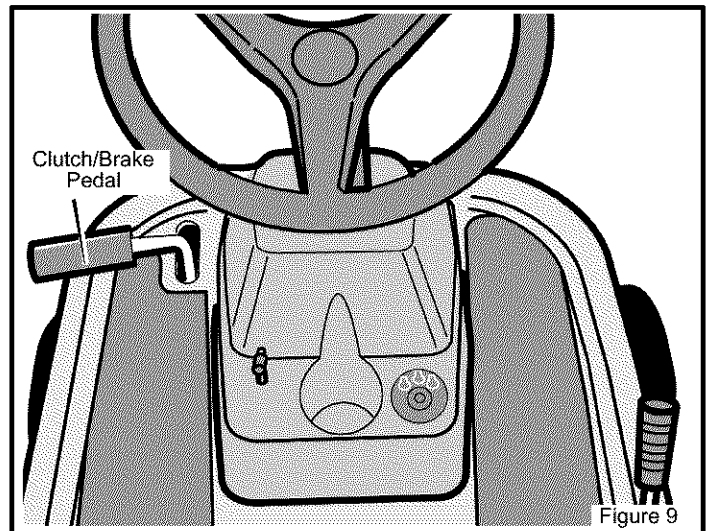
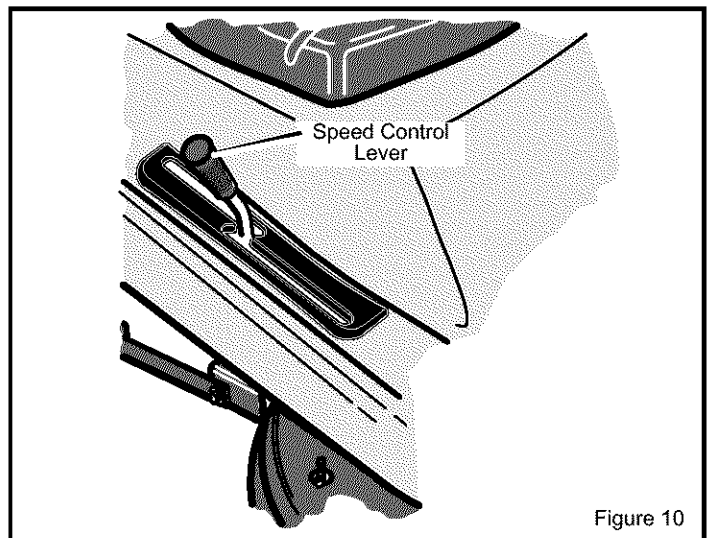

Figure 9
Figure 10
The Hydrostatic Drive is very easy to operate. The drive system has a clutch/brake pedal on the left side (see Figure 9) and a speed control lever on the right side (see Figure 10).
The speed and direction of travel is controlled by the speed control lever (see Figure 10). Use the speed control lever to select either forward or reverse.
2. Completely push the clutch/brake pedal forward to stop the unit (see Figure 9). Keep your foot on the pedal.
3. Move the speed control lever to NEUTRAL position (see Figure 10).
4. Slowly release your foot from the clutch/brake pedal (see Figure 9). Do not keep your foot on the clutch/brake pedal.
6. Slowly push the **speed control lever** forward to the desired speed (see Figure 9). To reduce forward speed, slowly pull the **speed control lever** to the desired speed.